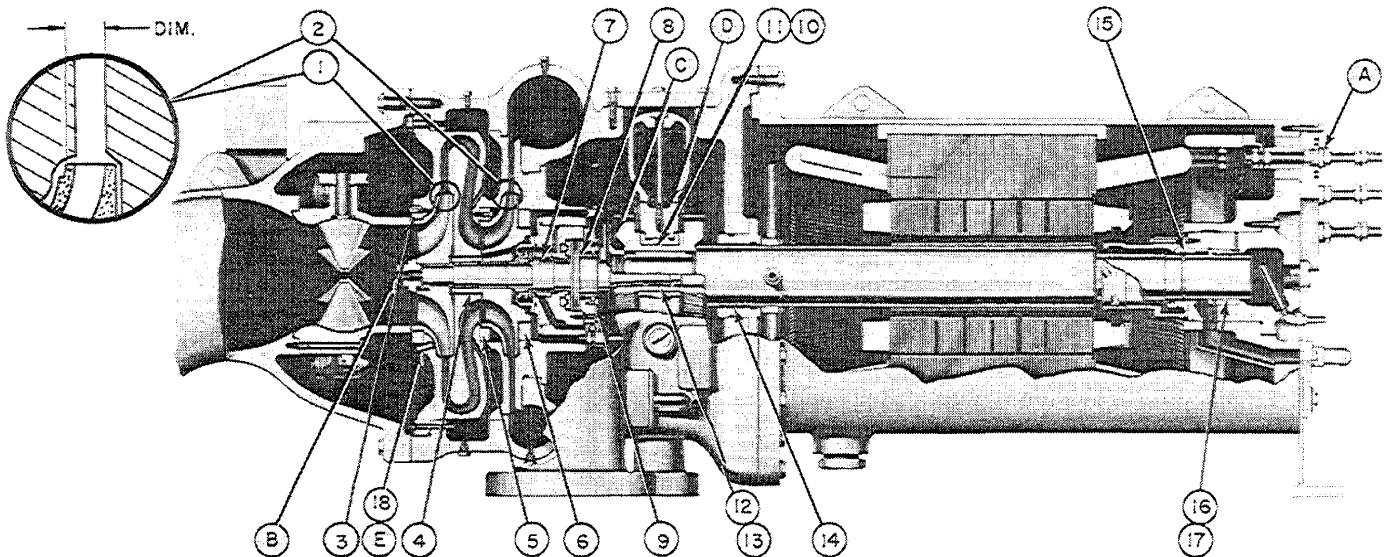

Fig. 13 — Compressor Fits and Clearances
*See Fig. 13 for item callout.
COMPRESSOR FITS AND CLEARANCES (See Fig. 13 for item callout)